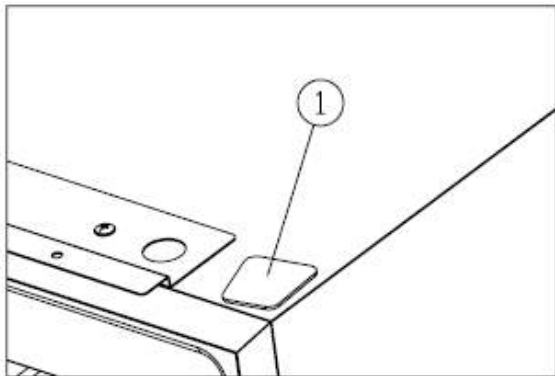

Figure 4
- ✧ Install the germinal lid①.[Figure 4]